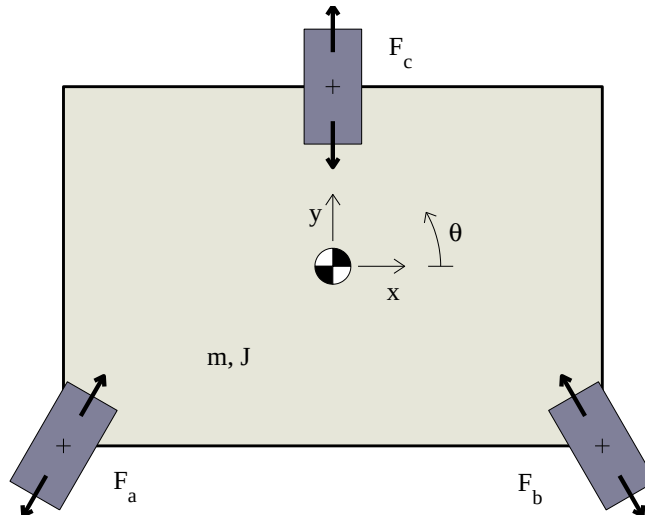

Figure 1: 2D robot platform.
- 1.1 2D Robot Platform.** In Figure 1, the large rectangle represents a robot platform that can move (friction free) in the plane of the paper. (For example, imagine the platform floats on an air hockey table.) The system has 3 degrees of freedom (DOFs): x , y , and θ . It also has 3 actuators. Each actuator is rigidly mounted at a particular location and angle on the perimeter of the platform and can provide thrust (+ or - direction) along its axis.